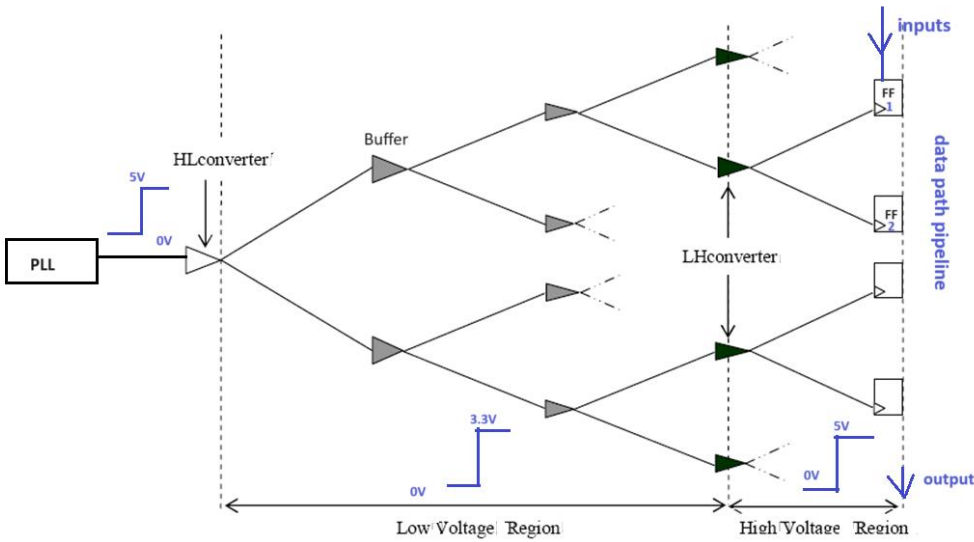

Fig. 3
- a) Consider Fig. 3. Assuming that a clock skew of +20 ps appears between (FF1, FF2). If Data path is designed using closed loop, global clock timing approach, how will the operating frequency will change. if bit-cell time “Tclk” is 1ns for data path. Assume all buffers identical
- b) **Statement---**For Fig. 3., the data path pipeline (open loop, global clock) has less timing uncertainty with decrease in depth of clock tree but more short-circuit power consumption ---. **YES/NO**. Justify your answer?